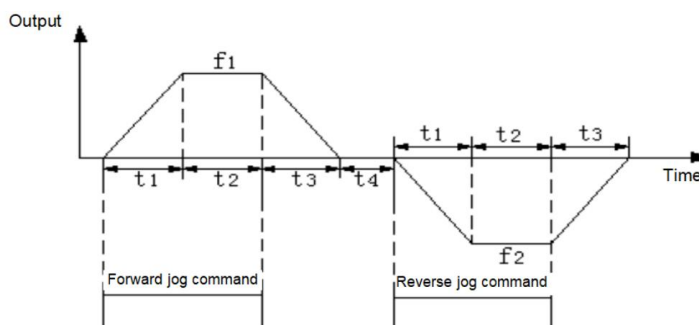

Figure 01-3 Jog operation diagram
01.09~01.12 define the relevant parameters during jog operation. As shown in Figure 01-3, t1 and t3 are the actual jog acceleration and deceleration time; t2 is the jog time; f1 is the forward jog operation frequency (01.09); f2 is the reverse jog operation frequency (01.10). The actual jog acceleration time t1 is determined according to the following formula: